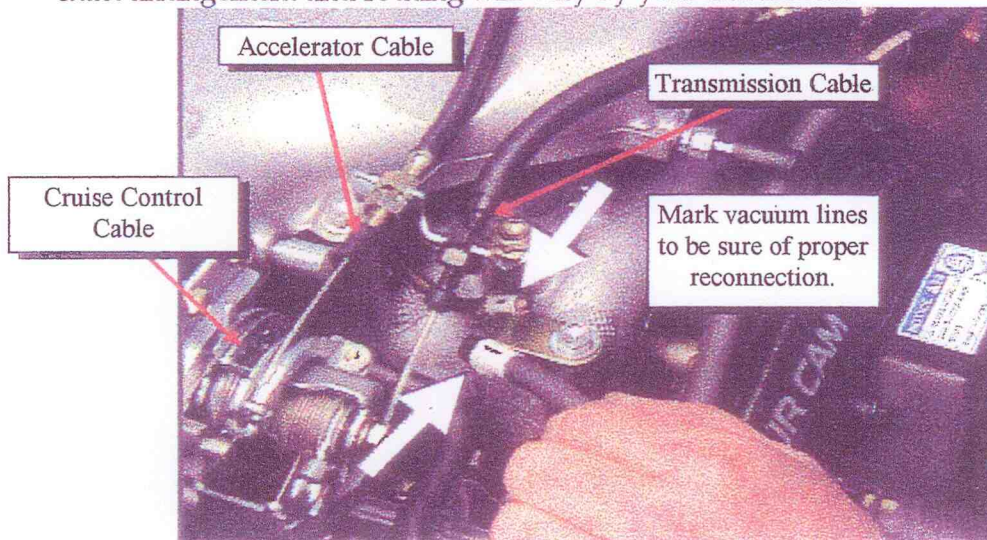

FIGURE 1
6. Note the tension and adjustment of: the throttle cable, the transmission throttle pressure cable (if equipped with an automatic transmission) and the cruise control cable (if equipped). Loosen the nuts holding the sheath on these cables. Do not remove the nuts entirely. Slip the cable sheaths out of the factory mounting brackets, then slide the cable ends out of the throttle body levers. See **Figure 1**.